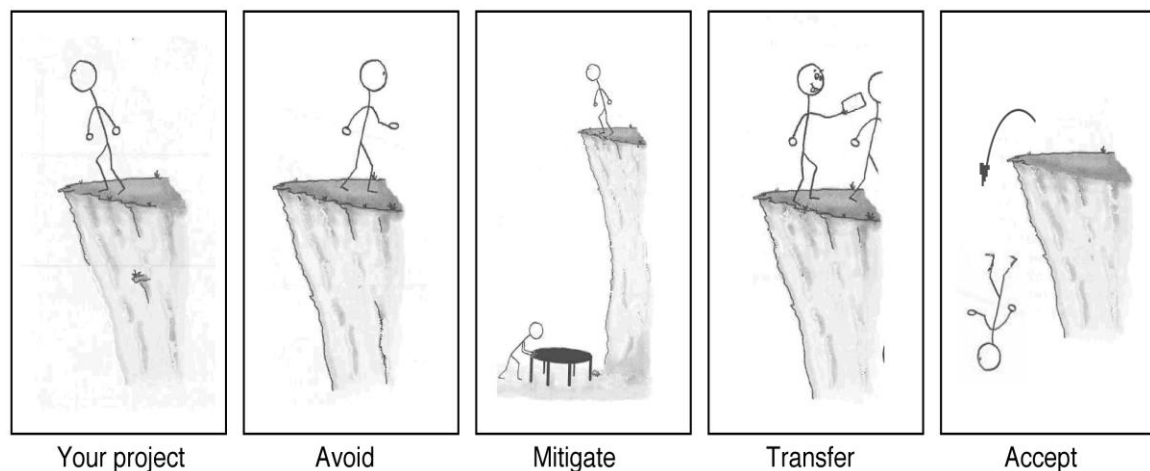

Figure 18.1 Potential ways to handle risk in a project.
If your project requires that you stand on the edge of a cliff, then there's a risk that you could fall (Figure 18.1). If it's very windy out or if the ground is slippery and uneven, then falling is more likely.
1. **Avoid:** The best thing that you can do with a risk is to avoid it. If you can prevent it from happening, it definitely won't hurt your project. The easiest way to avoid this risk is to walk away from the cliff (Figure 18.1), but that may not be an option on this project.
2. **Mitigate:** If you can't avoid the risk, you can mitigate it. This means taking some sort of action that will cause it to do as little damage to your project as possible (Figure 18.1).
3. **Transfer:** One effective way to deal with a risk is to pay someone else to accept it for you (Figure 18.1). The most common way to do this is to buy insurance.
4. **Accept:** When you can't avoid, mitigate, or transfer a risk, then you have to accept it (Figure 18.1). But even when you accept a risk, at least you've looked at the alternatives and you know what will happen if it occurs. If you can't avoid the risk, and there's nothing you can do to reduce its impact, then accepting it is your only choice.